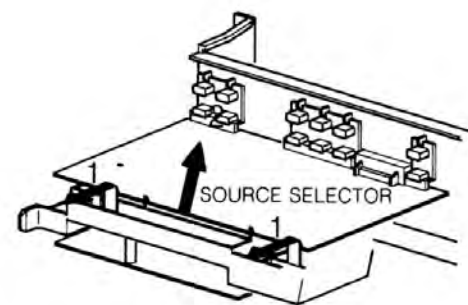

Fig 5
- 7) Loosen two snaps (see figure 5) and remove PCB.